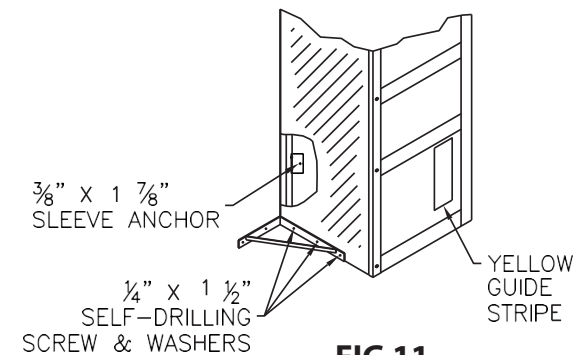

FIG 11
- If using Stabilizing Bracket (Figure 11):